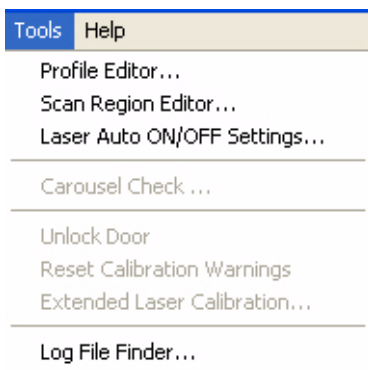

Figure 27 Tools menu
- 1 Select **Tools > Profile Editor** from the menu bar (Figure 27).
- Select **Tools > Scan Region Editor** from the menu bar (Figure 27).